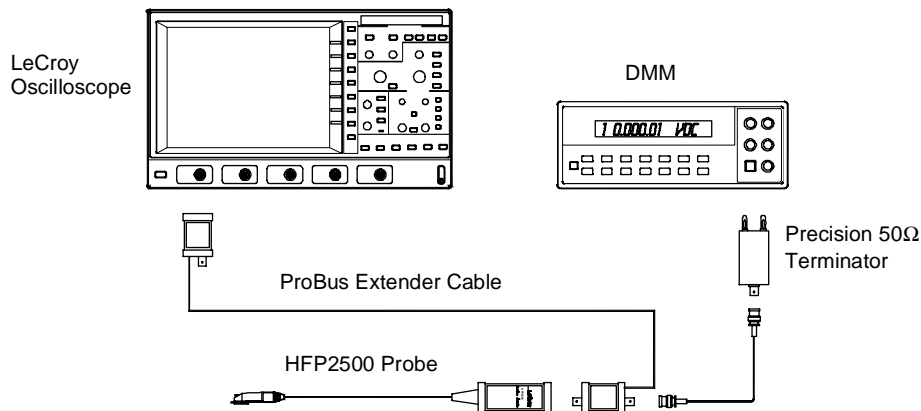

Figure 7-1. Output Zero Voltage Test Setup
2. Connect the banana plugs of the Precision terminator to the input of the DMM. Make sure that the plug corresponding to the BNC shield (marked "Ground") is connected to the **LO** or **COMMON** input of the DMM. Refer to figure 7-1 for setup information.